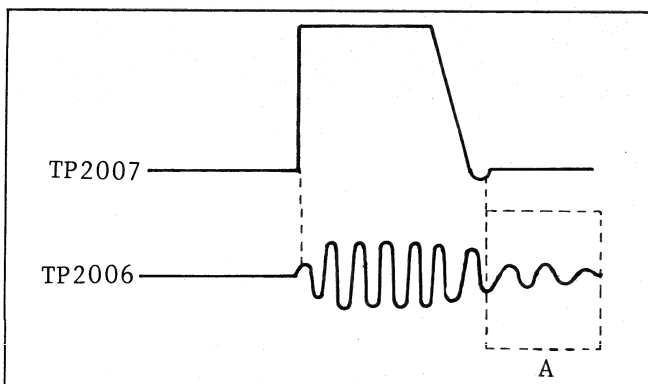

Fig. E6
7. In case of misadjustment, A-portion is as shown in Fig. E6.